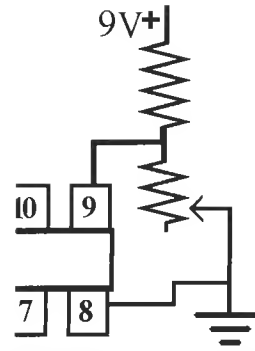

Figure L35-8
10. Modify your breadboard slightly to represent the changes shown in Figure L35-8. This allows you to adjust the voltage using a voltage divider. If the voltage is kept stable at the input to pin 9, what happens to the output at pin 4? \_\_\_\_\_